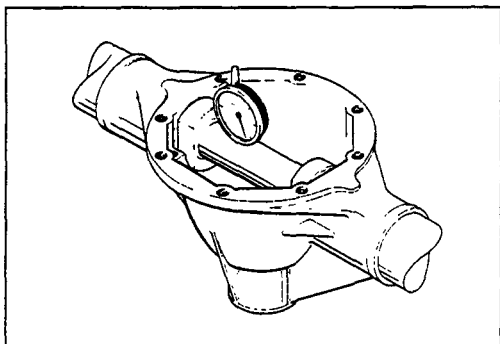

Figure 26
4. Place the depth gauge cylinder in the differential bearing bores and rock it backwards and forwards, noting the highest reading on the dial gauge. (Fig. 26).